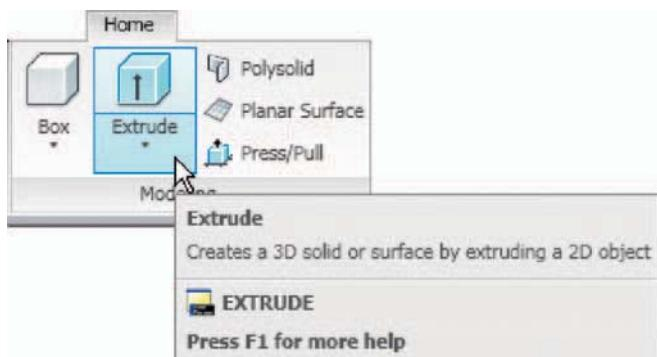

Fig. 12.13 The **Extrude** tool from the **Draw/Modeling** drop-down menu
The **Extrude** tool can be called with a *click* in the **Modeling** toolbar, with a *click* on its name in the **Draw/Modeling** panel (Fig. 12.13), or by *entering extrude* or its abbreviation **ext** at the command line.
1. Call **Extrude** (Fig. 12.13). The command line shows: